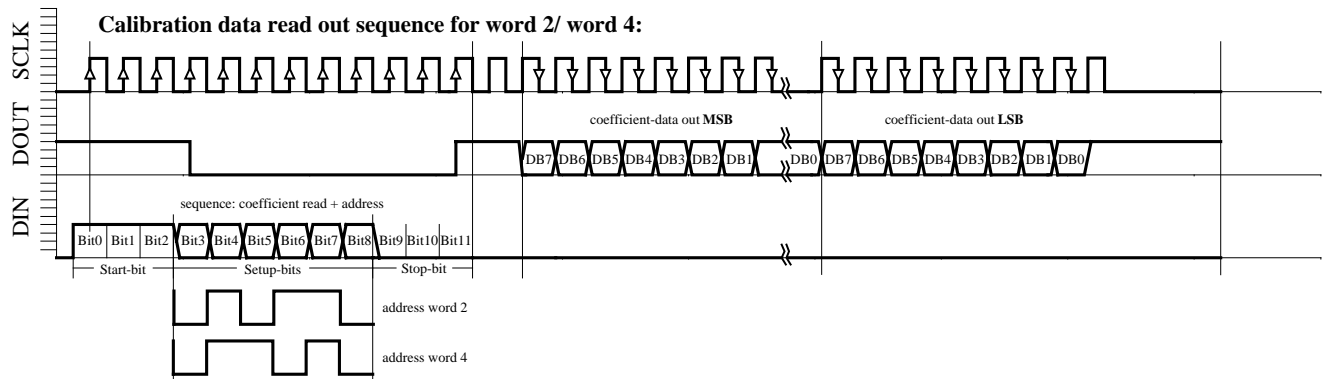

Fig. 6d: W2, W4 reading sequence
- Calibration data read-out sequence for word 2 (Figure 6d)
- Calibration data read-out sequence for word 4 (Figure 6d)